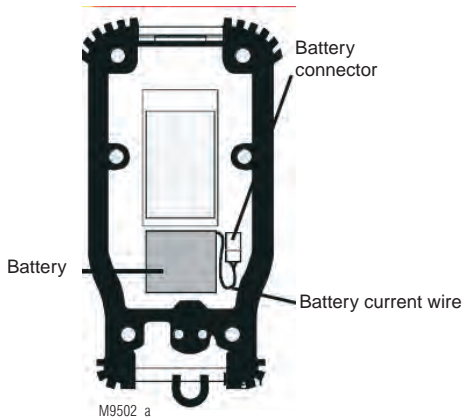

fig. 1
5. Open remote control enclosure (fig. 1).